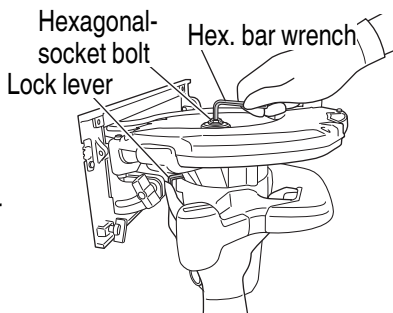

Fig. 13
- (1) Set the cutting volume at maximum, and place the Circular Saw as shown in **Fig. 13**.
- (2) Depress the lock lever, lock the spindle, and remove the hexagonal-socket bolt with the Hex. bar wrench.
- (3) While holding the lower guard lever to keep the lower guard fully retracted into the saw cover, remove the saw blade.